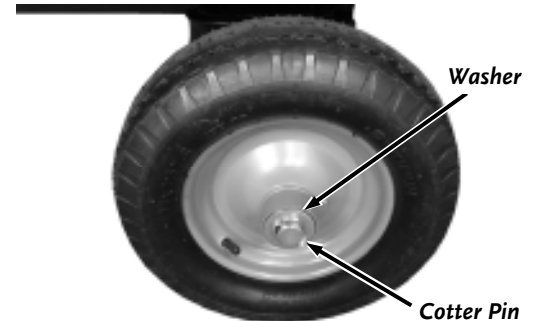

Figure 90
2. Remove the Cotter Pin with Locking Pliers or Needle Nose Pliers (**Figure 90**).